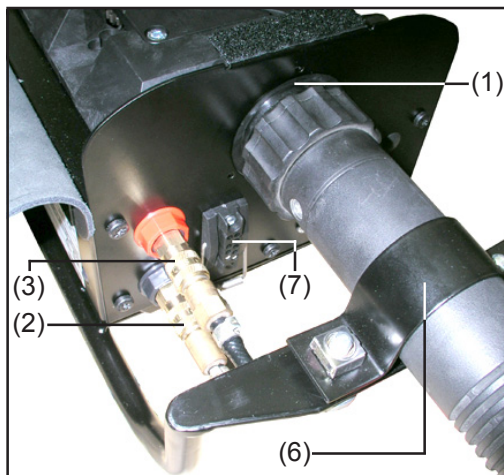

Fig.7 VR 143-2Z Yard: Connecting up the (standard) welding torch
On the side of the VR 143-2Z Yard shown here (Figs. 7 and 8):
2. Check that the torch is correctly and completely tooled up. Insert it - infeed tube first - into the welding-torch connector (1).
4. Plug the coolant hoses of the interconnecting hosepack onto the (black) plug-type connector for coolant forward-flow (2), and onto the red one for coolant return-flow
- 5a. Standard welding torch (Fig.7): Plug the welding torch to the torch connection jack (7)